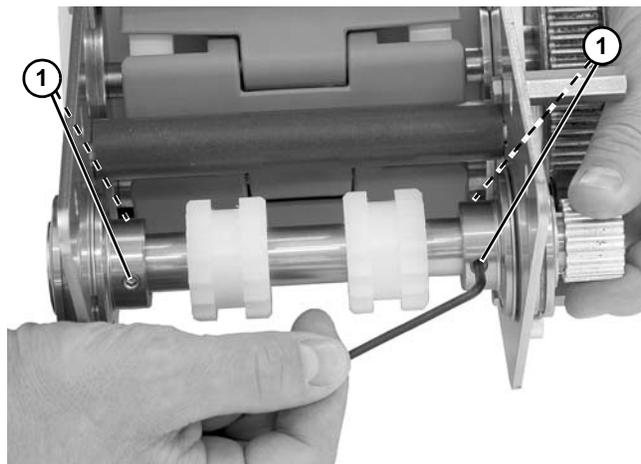

Figure 71
3. Secure drive shaft onto bearings with four set screws (**Figure 71, item 1**).